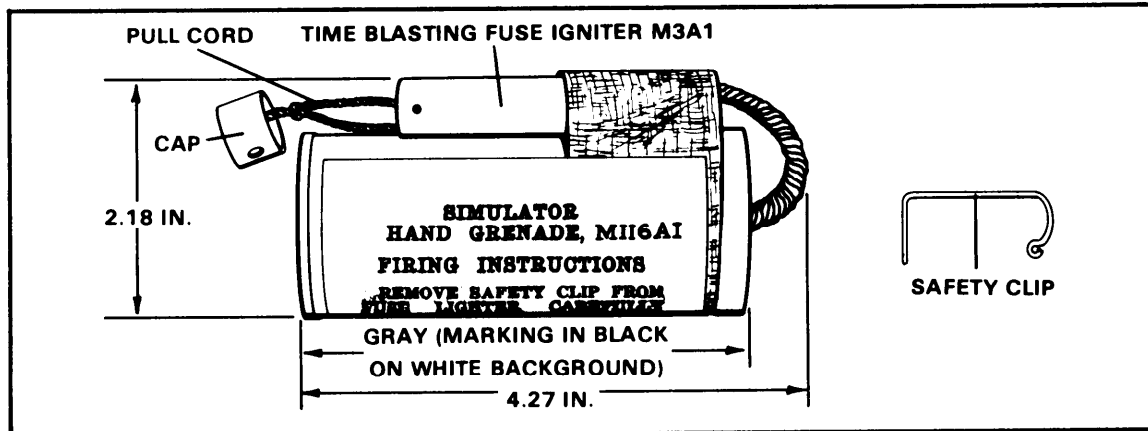

Figure 5-6. M116A1 simulator.
c. The hand grenade simulator M116A1 (Figure 5-6) is used to create battle noises and flashes during training. It differs from the ground burst simulator in that it is shorter and does not emit a high-pitched whistle before detonation. The hand grenade simulator is thrown in the same manner as a live grenade. It creates a loud report and a flash 5 to 10 seconds after ignition.